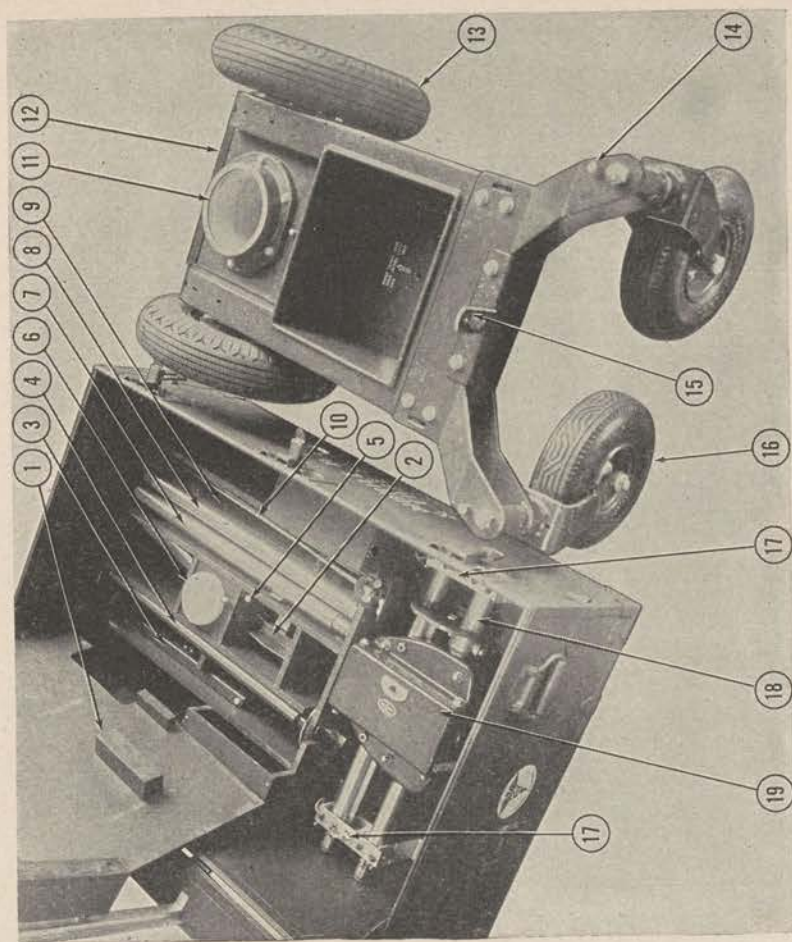

Figure 26. Chest MD X-1, new type, item No. 9609010, with chassis removed.
(2) *New type, 9609010.* (a) Remove the chassis from the chest. This requires two men, one grasping the brake lever and the other lifting the caster support bracket. After the chassis has been removed, lock the foot brakes by pressing down on the brake lever. (See fig. 26, part 12.) Release the casters by turning the two knurled head bolts (fig. 26, part 14), until they are all the way up.
(b) Remove the compartment cover. The chest will now appear as in figure 26.
(c) Unscrew the wing nuts and remove the lower mast section and cross-arm assembly. Carefully place the bearing end of this assembly into the mast base of the chassis. (See fig. 26, part 11.)